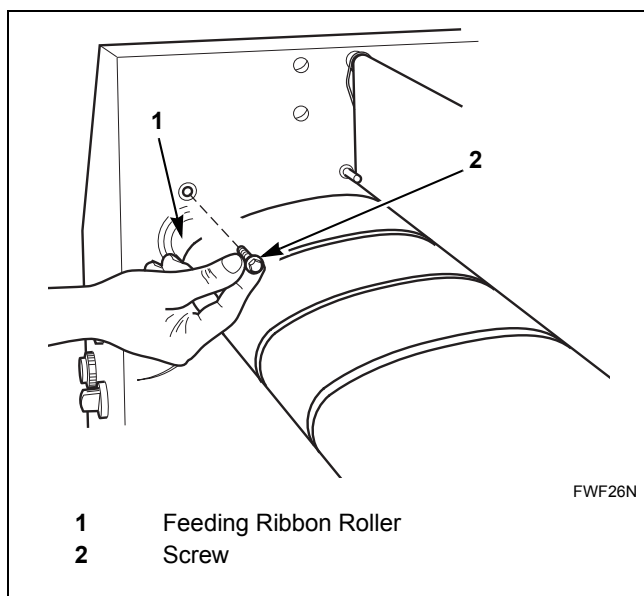

Figure 27
- Unlock the feeding ribbon roller at the left side interior panel by removing two screws. Keep roller in place and check the direction in which the bearing is mounted. Refer to *Figure 27*.